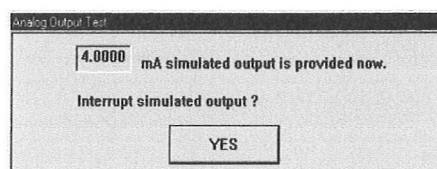

Fig.52
- ④ Clicking on "OK" at ③ starts producing the analog output you selected. While this simulated output continues, a message box like the one shown in Fig. 52 stays on the screen. To stop the output, click on "YES" button.